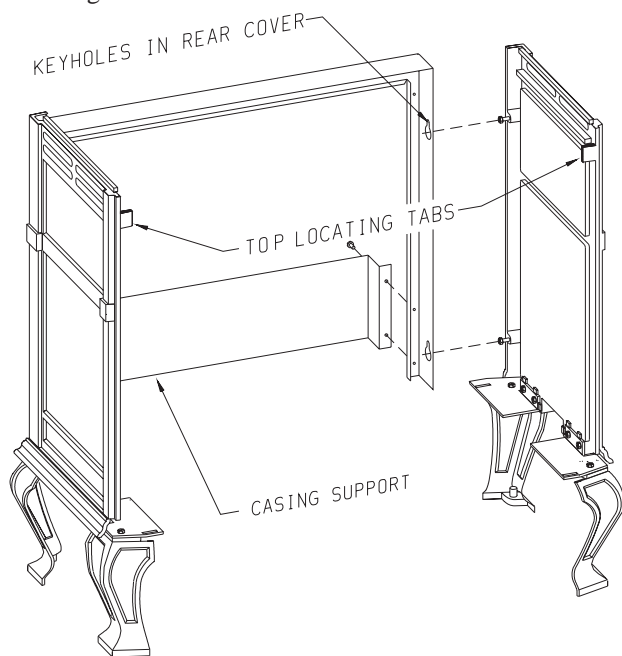

Figure 8
- B. Attaching rear cover to sides (Figure 8).
7. Refer to Figure 8, attach casting support to rear cover with (4) 10 x 1/2" screws. The rear cover has (4) keyholes for attachment to the casting sides. Stand the casting sides on the floor with the (2) bolts attached half-way into the edges of the rear cover positioned at the rear. The large diameter holes in the keyholes of the rear cover will be toward the floor. Working with one casting side at a time, place the large diameter holes in the keyholes over and behind both of the bolts at the same time. Push downward on the rear cover to lock the keyholes into position behind the bolts. Finish tightening both bolts to secure rear cover to casting side. Repeat this procedure to secure rear cover to the second casting side.